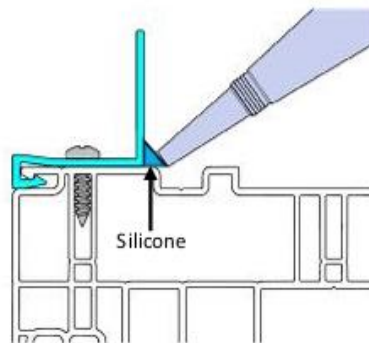

Figure 8
- Apply silicone behind the vertical nailing fin, along the edge where the nailing fin and jamb make contact (Figure 8)